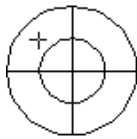
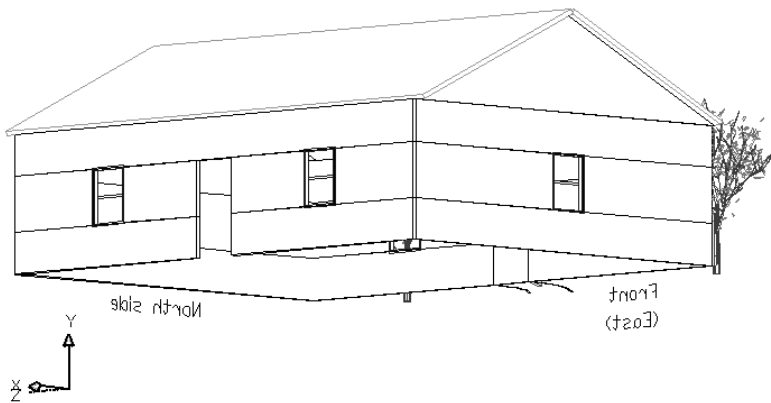

Figure 22-21: Picking a back left viewpoint from beneath the house
Figure 22-22: The resulting viewpoint. Notice that the house doesn't have a floor!
3. Press Enter twice to repeat the VPOINT command and display the tripod and compass. Pick the point shown by the cross in Figure 22-21. Use the HIDE command to clearly see the results, as shown in Figure 22-22.